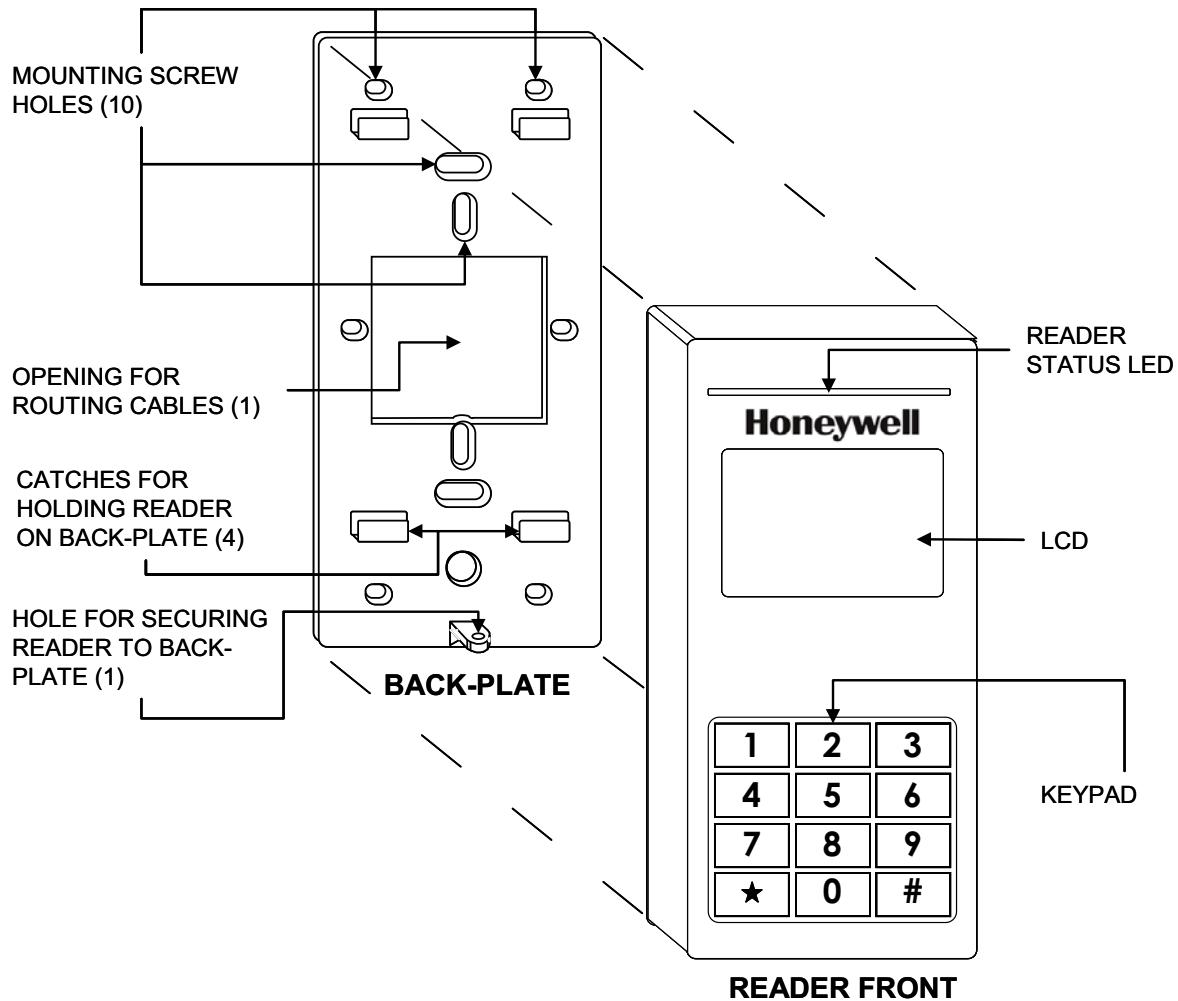
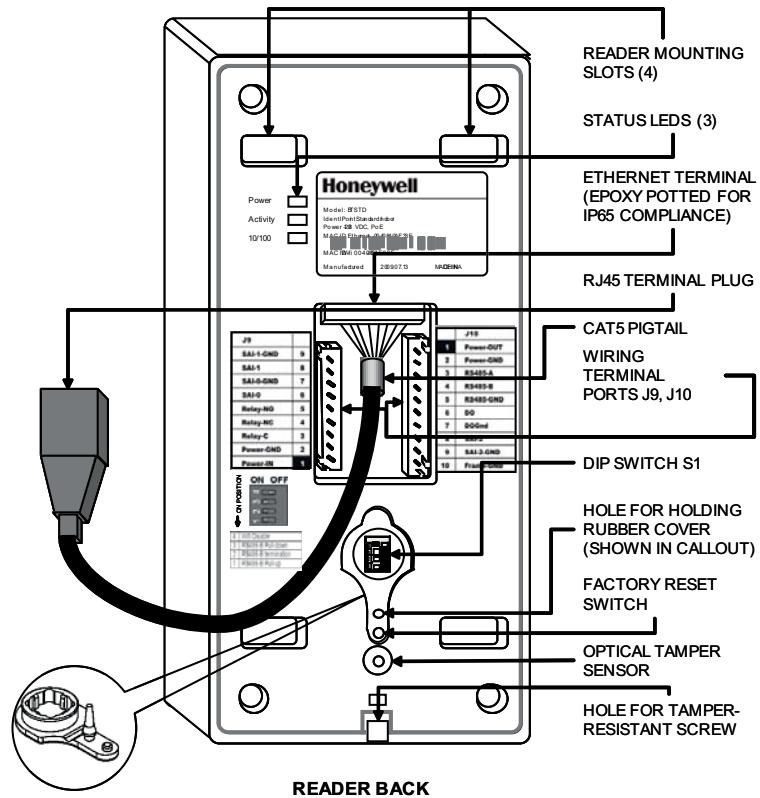

Fig. 2. Parts of IdentPoint reader - Front of reader and Back-plate
Fig. 3. Parts of IdentPoint reader - Back of reader
1. Fig.2 and Fig.3 show the parts of the IdentPoint reader. Use the back-plate of the reader to mark out the position of the reader on the drywall. Mark the positions of the mounting screws and the opening for routing the cables.
1. Fig.2 and Fig.3 show the parts of the IdentPoint reader. Ensure that the correct sized gang box is securely embedded in the concrete wall. The holes provided in the gang box for the screws should align properly with at least two of the holes provided in the reader back-plate for the screws.